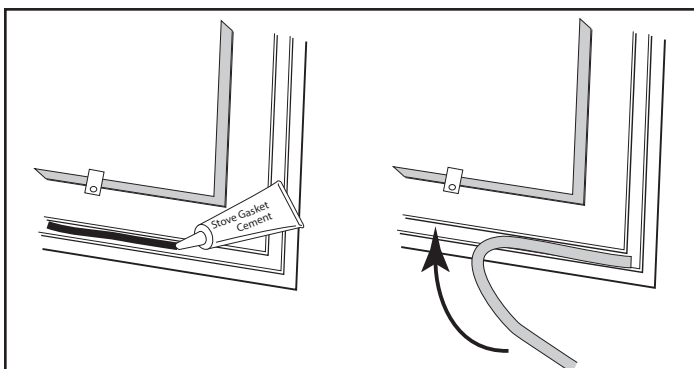

Figure 47 - Lay a bead of gasket cement then press gasket in place.
5. Lay an unbroken 1/8" (3 mm) bead of silicone in the newly-cleaned channel. (Figure 47)
6. Starting at one end, press the gasket into the channel. (Figure 47) Ensure a good joint where the gasket meets before trimming any excess. Do not overlap the gasket ends or leave ends with ragged edges.